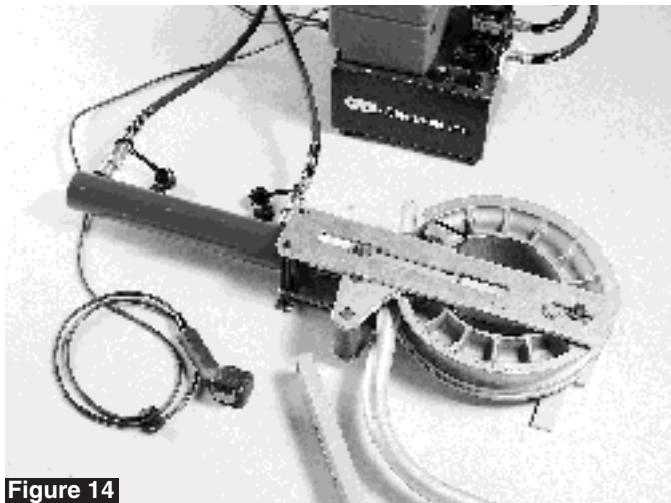

Figure 14
16. To remove bent conduit from the Mini-Eegor™ upon completion of the bend, retract the cylinder plunger, pull out the follow bar, and lift out the pipe (see Figure 14).